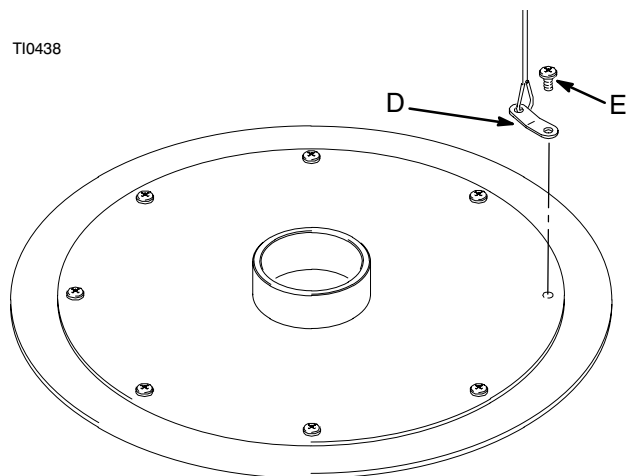

Fig. 2
5. Slide the follower plate (part #243191 or #241485) onto the pump tube and attach the metal clip (D) see fig. 2, to follower plate using screw (E) (part #112948).